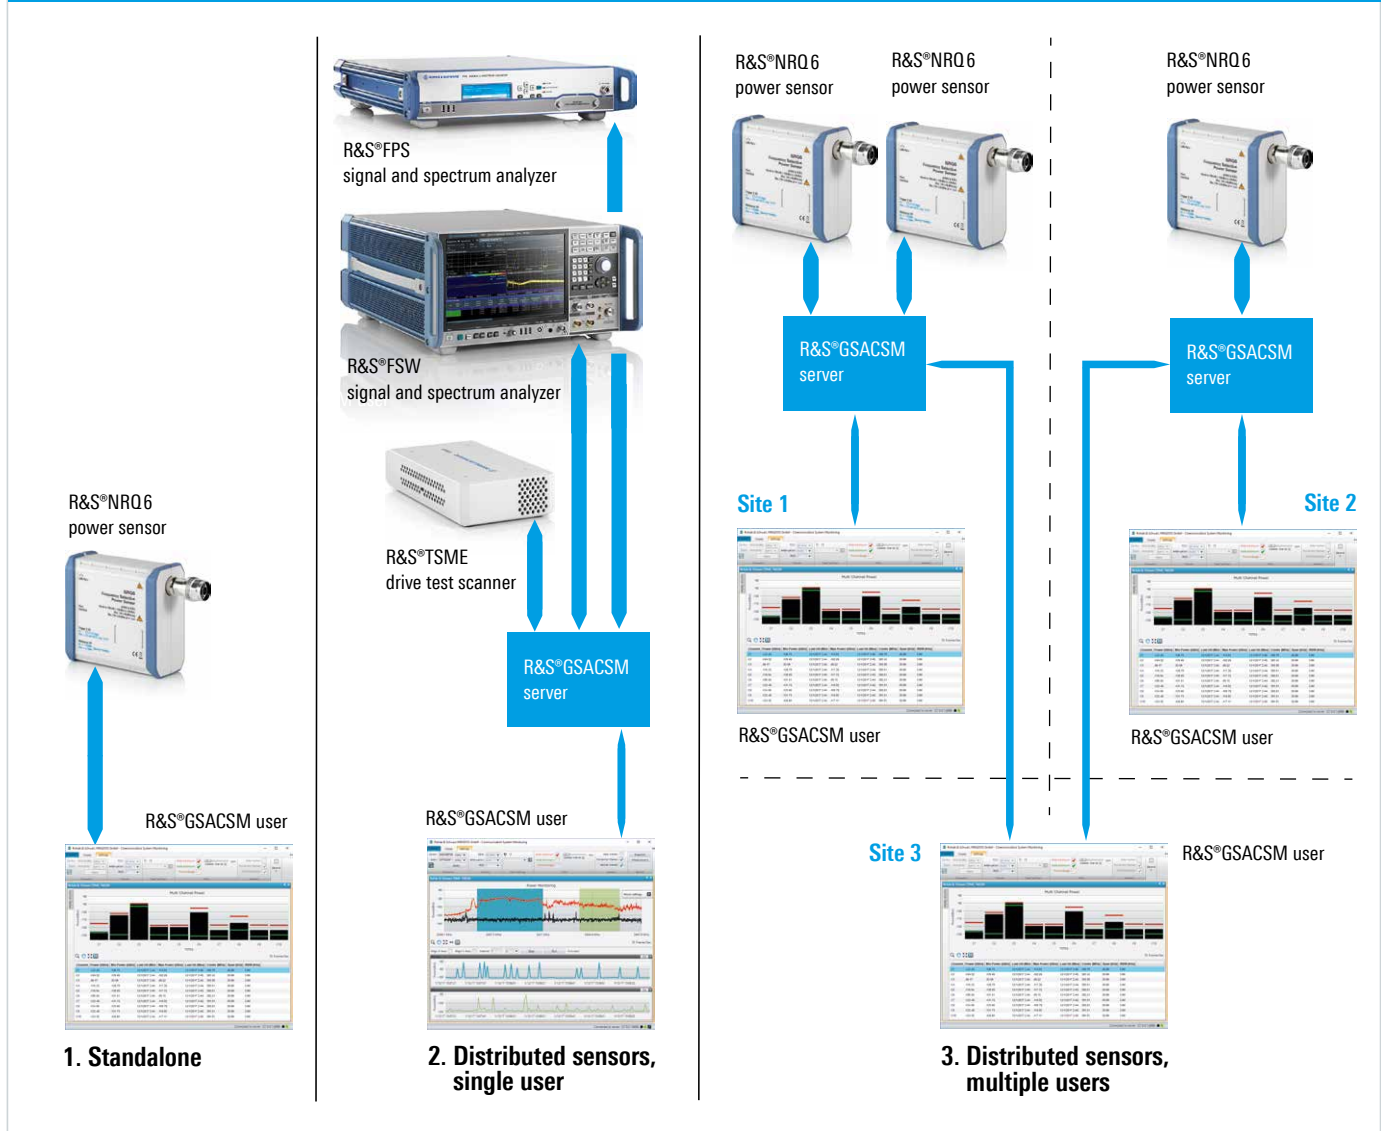

Fig. 2: Possible R&S®GSACSM operating modes.
- **R&S®GSACSM user:** This graphical user interface plays the role of a classic multi-screen, multi-sensor desktop monitoring application. Fig. 2 shows the system’s different operating modes.